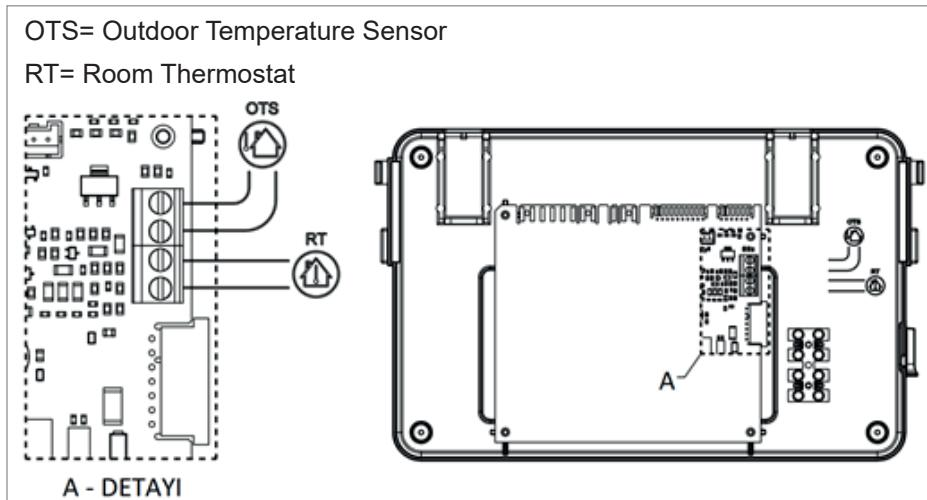

Figure 19. Interior view of the plastic board
- Connect the remote control, room thermostat, and outdoor air sensor cables as shown in detail A in Figure 19.